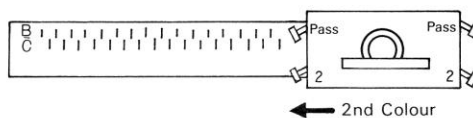

Fig.84
With the 1 x 1 selector plate push forward into position (D) from position (B) every alternate needle starting with right end needle. (Fig.84)